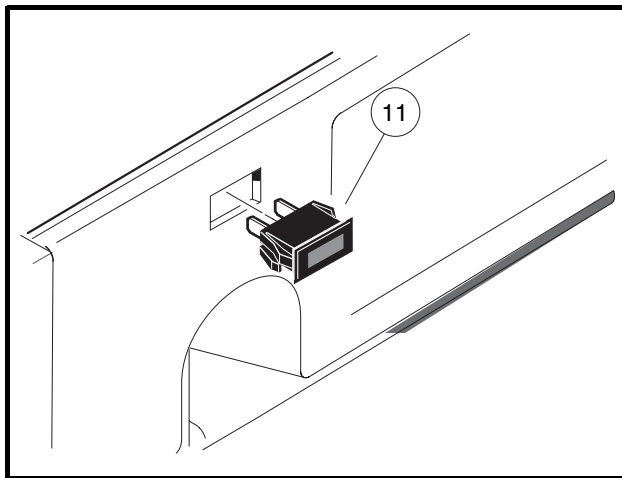

Figure 12-21 Low Oil Warning Light
3. Disconnect the wires from the low oil warning light (11) (**Figure 12-21, Page 12-21**). Do not allow wires to touch.
1. Push a new unit into hole in dash until plastic tabs engage dash (**Figure 12-21, Page 12-21**).